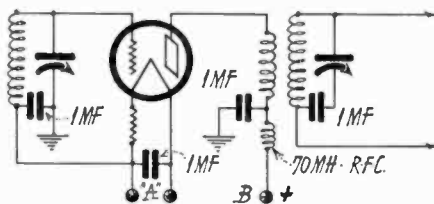

Fig. 5
12. In Fig. 5, is shown one stage of a "broadband" amplifier. Discuss the circuit with respect to the technical features, keeping in mind the problem of cost reduction.